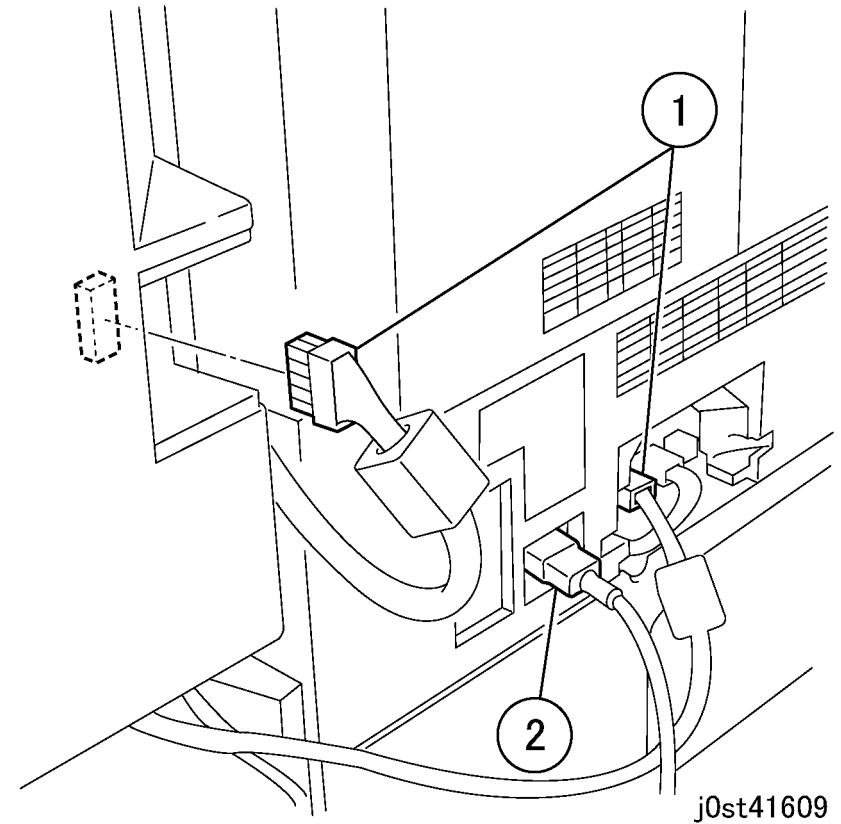

Figure 5 Disconnecting the cables and connectors (j0st41609)
6. Disconnect the cables and connectors. (Figure 5)